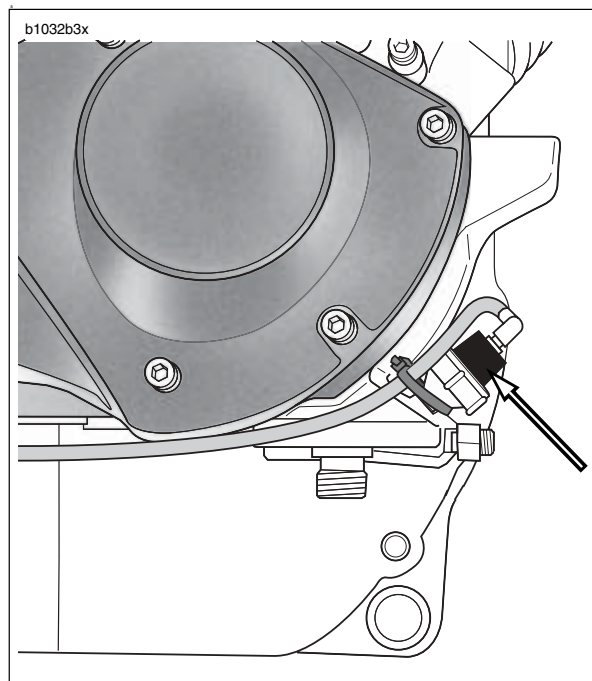

Figure 3-112. Oil Pressure Indicator Switch
See Figure 3-112. The oil pump is non regulatory and delivers its entire volume of oil under pressure to the oil filter mount. When an engine is cold, the engine oil will be more viscous (i.e., thicker).
2. See Figure 3-112. Unplug connector (3) from oil pressure indicator lamp switch (2) located under oil filter (1) by pulling elbow connector straight down from stud on oil pressure switch. Using OIL PRESSURE SENDING UNIT WRENCH, unscrew and remove oil pressure switch from crankcase.
3. See Install OIL PRESSURE GAUGE ADAPTER (Part No. HD-96925-58) (2) in oil pressure indicator lamp switch mounting hole. Tighten adapter snugly. DO NOT OVERTIGHTEN.